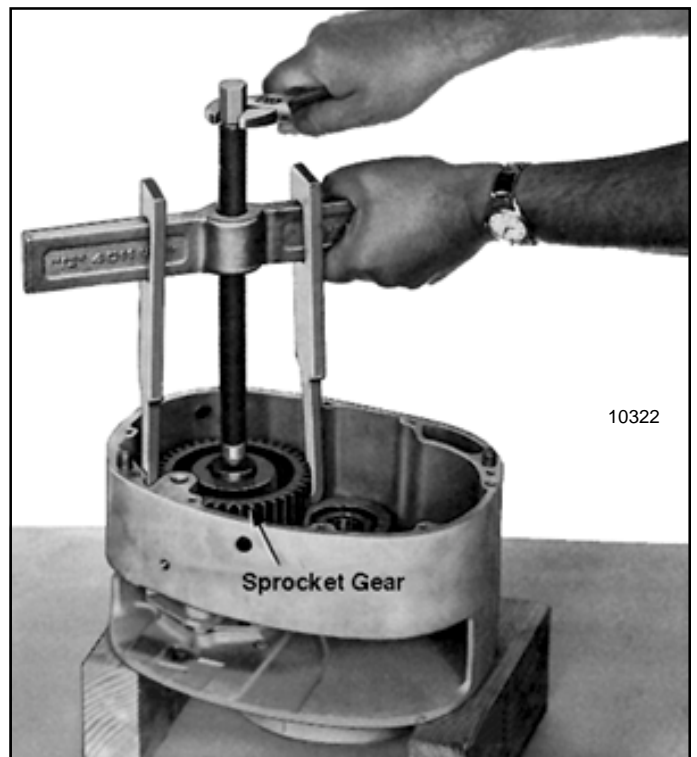

Figure 7-10. Pulling Sprocket Gear from Sprocket Shaft using Common Puller
- (1) Remove retaining ring from end of sprocket shaft and pull off sprocket gear using a common puller (fig. 7-10). Remove Woodruff key from shaft.